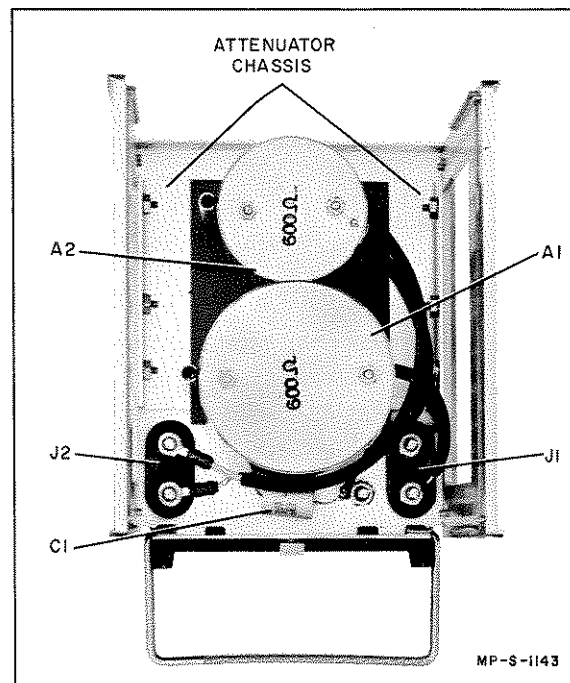

Figure 5-2. Model 350D Rear View (Rear Panel Removed)
5-7. Figure 5-2 illustrates the Model 350D with rear panel removed and identifies the components and assemblies. To remove the attenuator assemblies, proceed as follows:
- c. Disconnect coaxial cables from connectors J1 and J2 (see figure 5-2). Mark cables for proper reinstallation. Remove capacitor C1 lead from ground lug.
- d. Remove flathead screws which fasten attenuator chassis (see figure 5-2) to instrument side castings. Remove attenuator chassis from instrument frame.